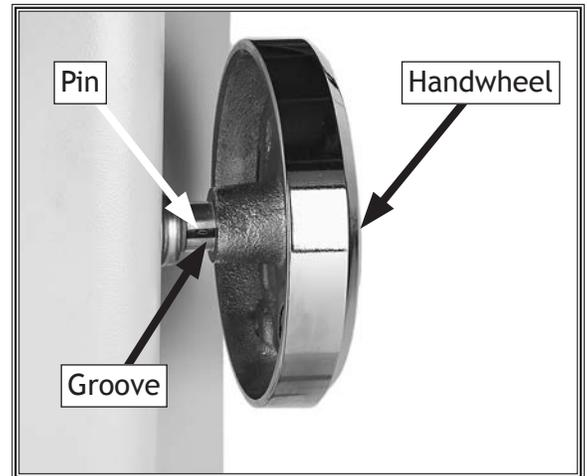

Figure 14. Handwheel installed on shaft pin.
2. Slide groove on back of each handwheel over handwheel shaft pin (see **Figure 14**).